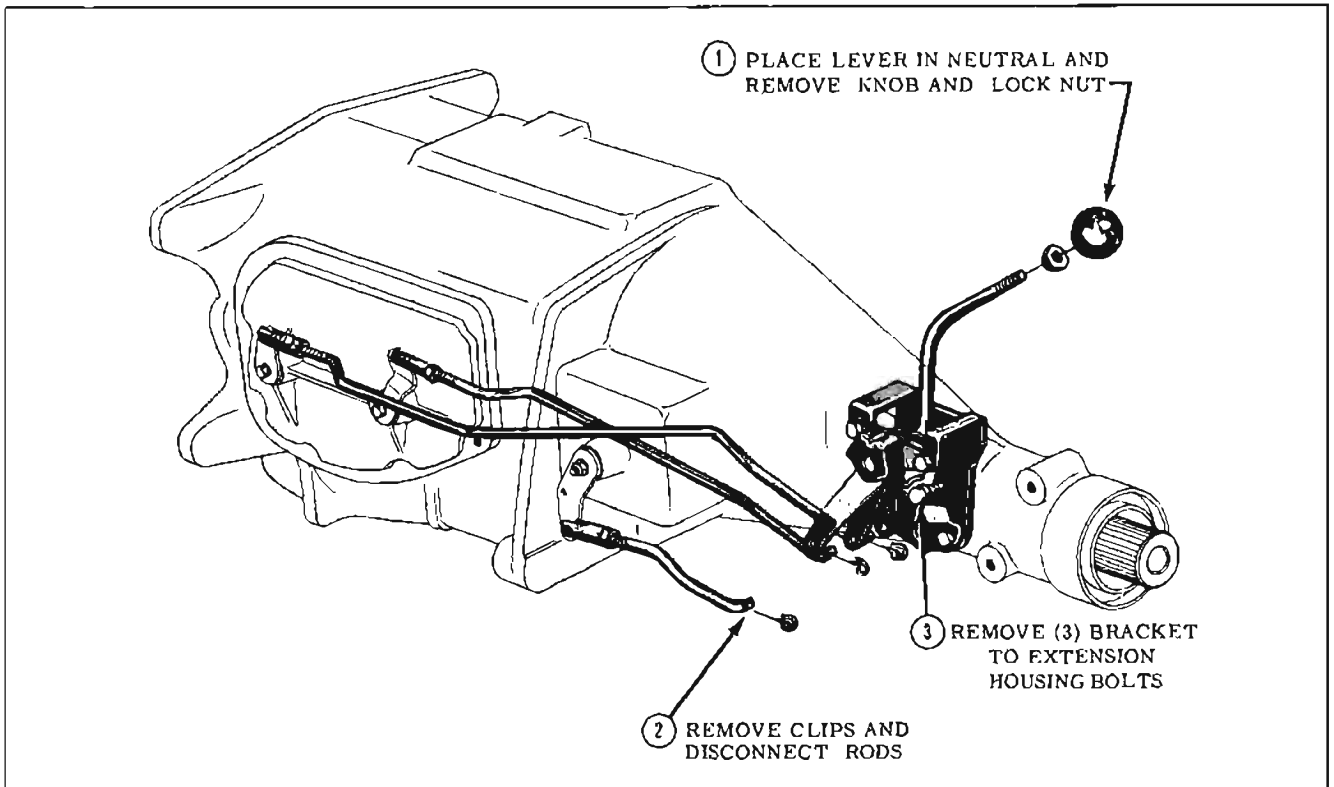

Fig. 11-258 Removing Gear Shift Assembly
2. With car raised, remove the (3) shift rod retainer clips and disconnect shift rods from the reverse, 1-2 and 3-4 shift levers. (Fig. 11-258)
3. Remove (3) bolts which retain lever assembly bracket to the rear extension housing. (Fig. 11-258)